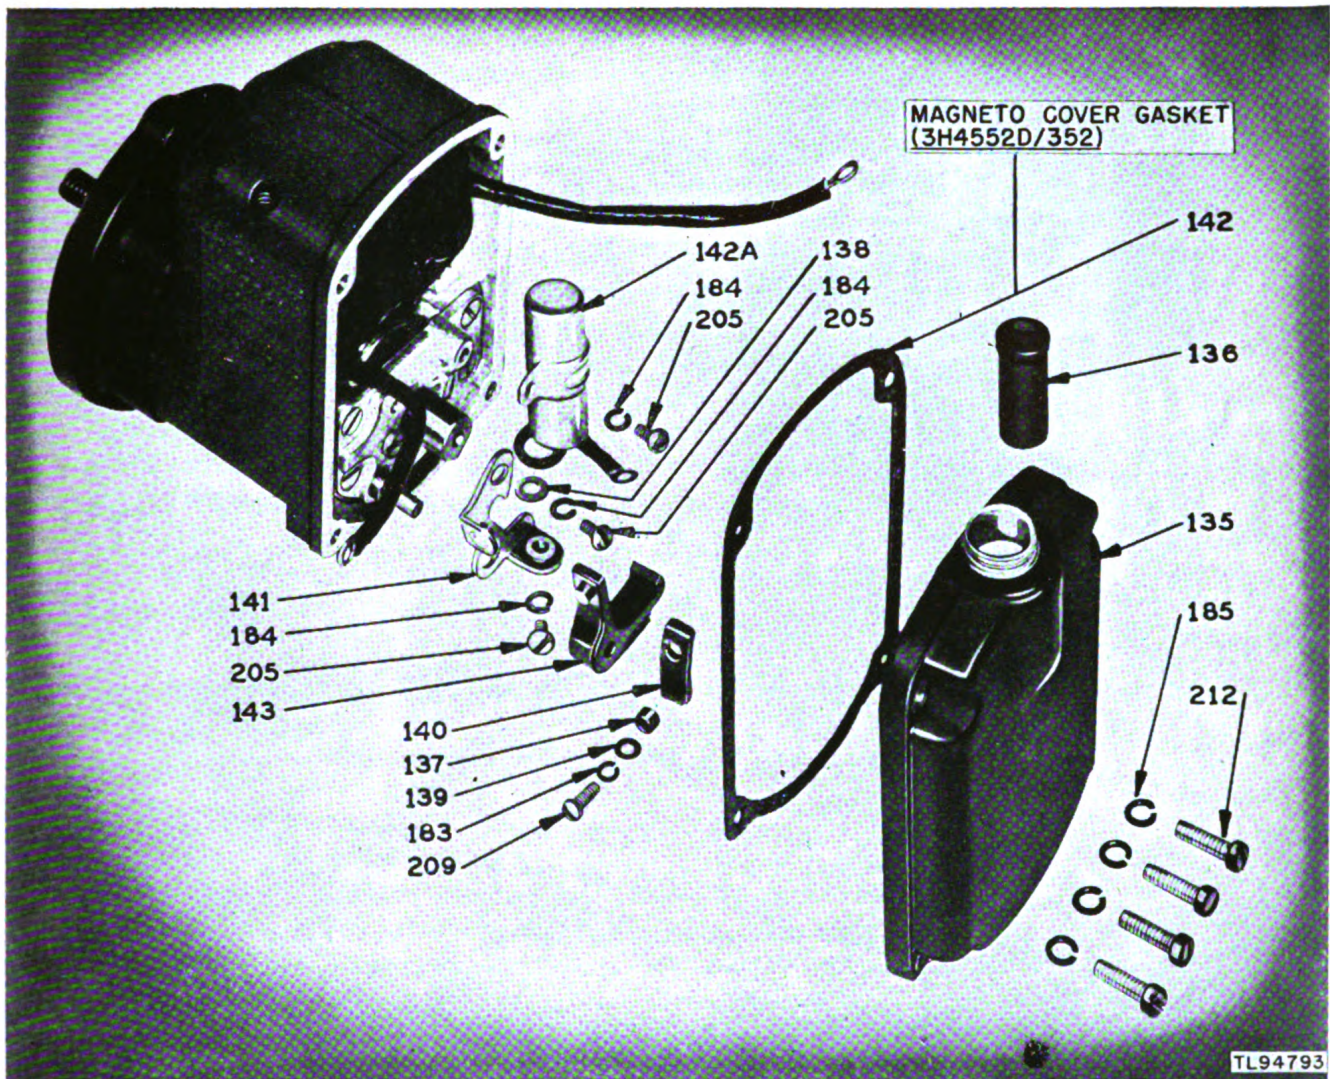
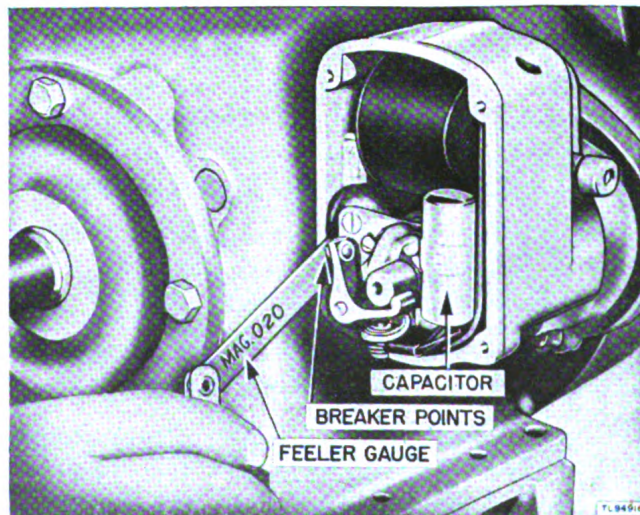

Figure 41. Magneto breaker-point assembly.
Figure 42. Checking magneto-point clearance.
MAGNETOS (POINTS). Determine whether they are in good condition and securely mounted. Remove the four screws (fig. 41(212)) that hold the magneto-breaker cover (fig. 41(135)) to the magneto. Be careful not to damage the gasket (fig. 41(142)) when removing the cover. If only slightly pitted, dress the points with #00 sandpaper or a fine-grit bone. If the points are badly pitted, replace both points. Clean the magneto-breaker cover inside and outside with dry-cleaning solvent (SD) before replacing it.
Adjust. Check the breaker-point gap with a feeler gauge. (See fig. 42.) The correct gap is 0.015 inch. Be sure that the points are open to their widest gap when checking. If the breaker gap is not satisfactory, loosen the fixed contact-locking screw (fig. 41(205)) and adjust the gap by turning the eccentric adjusting screw. Be sure to retighten the locking screw when a satisfactory adjustment has been made. Recheck gap after retightening screw.